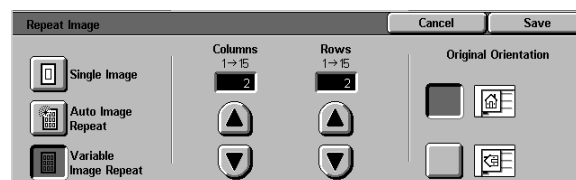

Figure 13: Variable Image Repeat detail screen
- **Variable Image Repeat** (Figure 13)